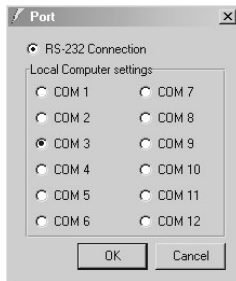

Figure 11: The Port Window – Selecting a Virtual Serial Port
4. In the control application, choose the COM-port connection according to your virtual serial port connections (see Figure 11).